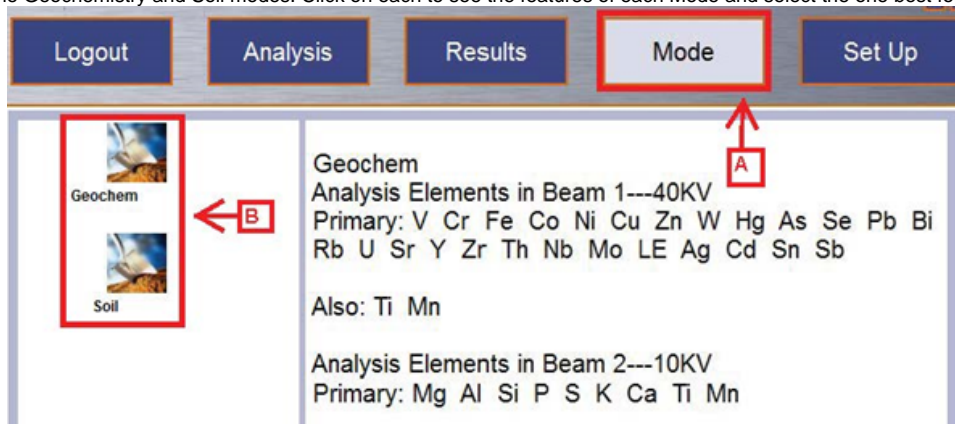

Figure 5. Mode Window. A. Mode Button to access the screen. B. Geochemistry and Soil Modes
- To access the Modes click on 'Mode' at the top of the screen (Figure 5). This directs you to the 'Mode' Screen and in the left panel you can choose between the Geochemistry and Soil modes. Click on each to see the features of each Mode and select the one best for your analysis.